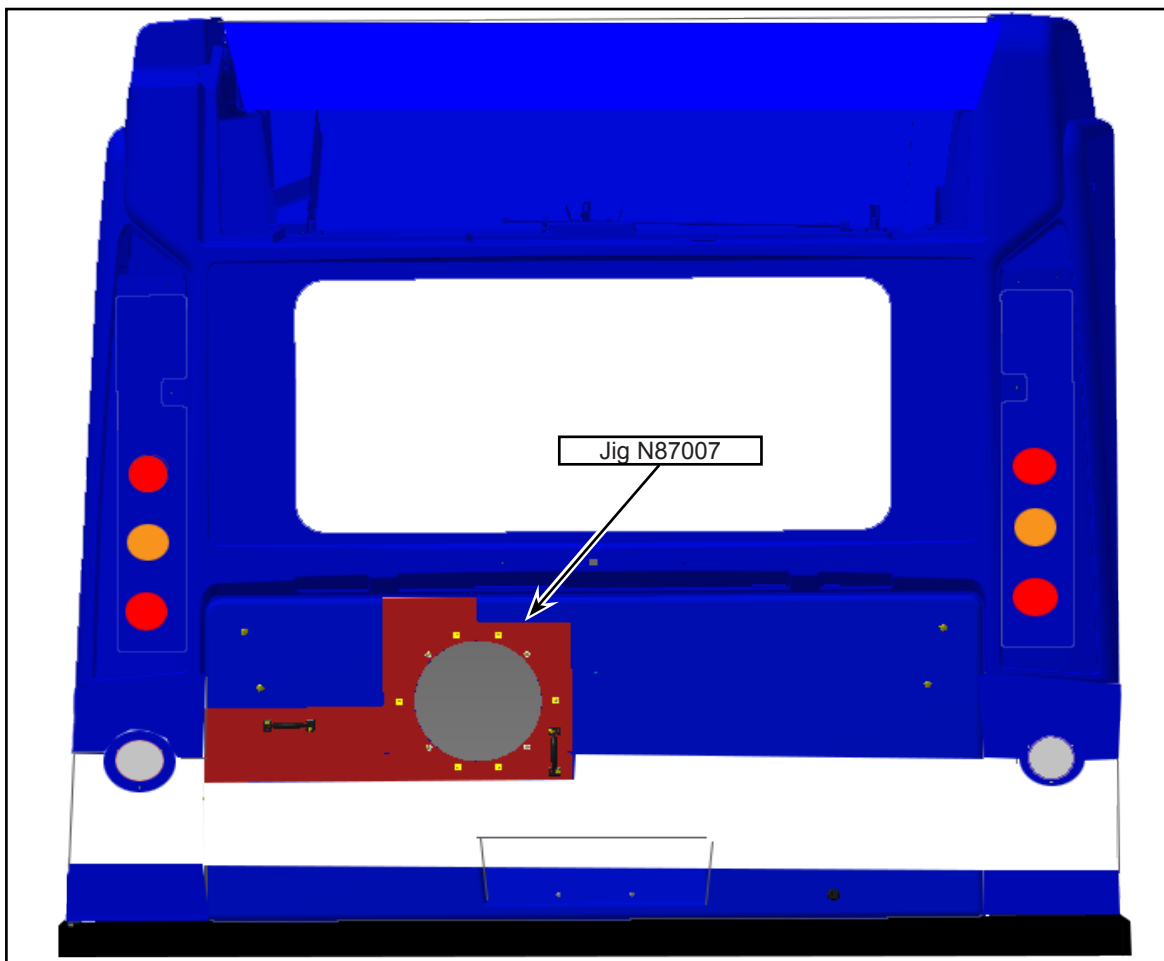

Figure 1 - Install the Jig on the Engine Compartment Access Door
- 1.3. Position jig N87007 on the engine door. Use the openings in the jig to line up with decal position. Adjust and reposition the jig as needed. See Figure 1.